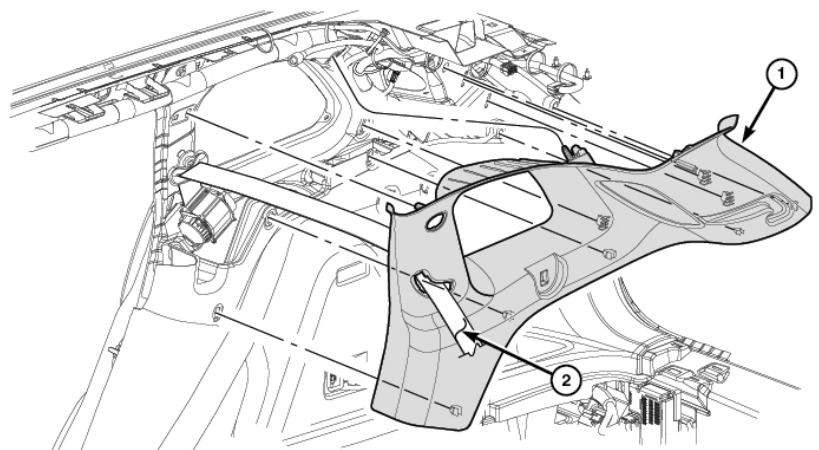

Figure 20 – Upper Quarter Trim Panel (Passenger Side Shown, Driver Side Similar)
7. Set the upper quarter trim panel (1) aside in the rear cargo area (Figure 20). It is not necessary to remove the seatbelt anchor, nor to remove the upper quarter trim panel from the vehicle.
31. Set the upper quarter trim panel (1) in place (Figure 20).